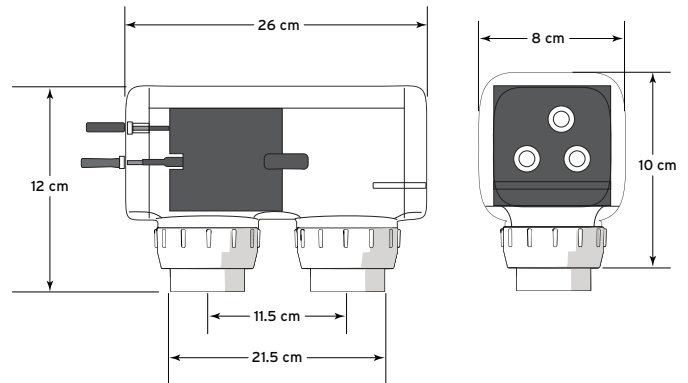
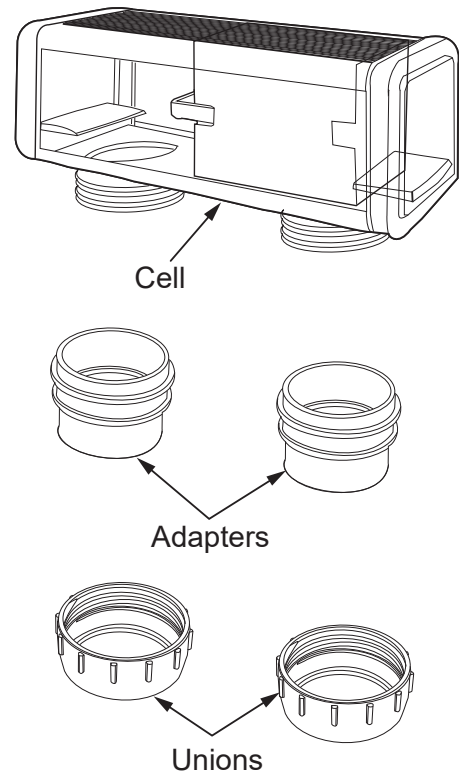

Figure 2. Electrolytic Cell Dimensions
Figure 4. Cell Plumbing Assembly
2. Plumb the cell inlet and outlet on vertical lengths of 40 mm PVC pipe. The cell inlet and outlet ports are 11.5 cm apart, see Figure 2. The inlet of the cell is on the side closest to the electrical lead, see Figure 4.
3. Put the unions onto the inlet and outlet pipes, see Figure 4.